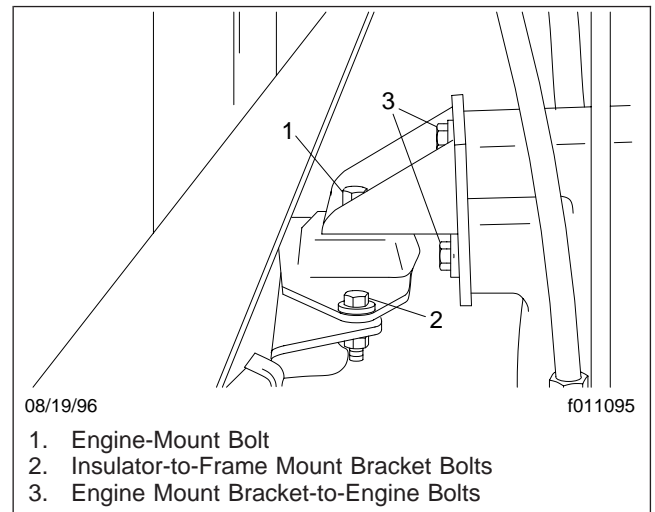

Fig. 1, Rear Engine Mount (ISB rear-engine chassis built before 2002)
- Check the rear engine-support fasteners. See Fig. 1. Tighten the rear engine-mount bolt 157 lbf-ft (213 N·m).